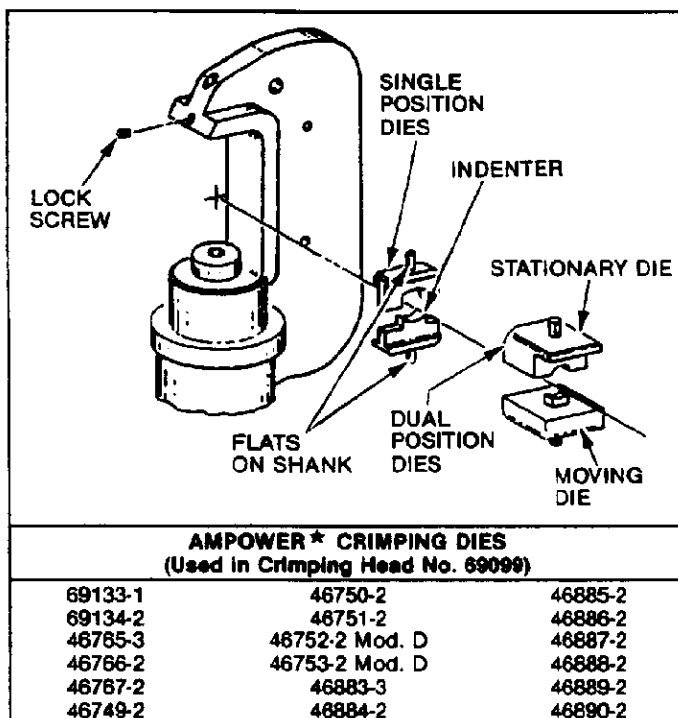
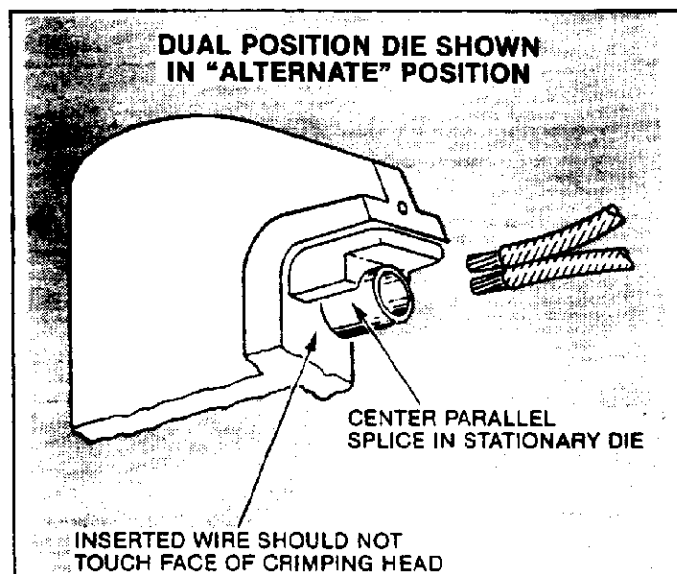

Fig. I-1
Fig. I-4
This instruction sheet (IS) covers application and maintenance procedures for the AMPPOWER crimping dies listed in Figure I-1.
The AMPPOWER die assemblies listed in Figure I-1 are used to crimp AMPPOWER terminals and splices of the wire sizes indicated in Figure I-2.
‡ NON-REVERSIBLE DIES. ALWAYS INSTALL INDENTER IN RAM. SEE FIGURE I-1.
2. Loosen lock screw in top of crimping head. See Figure I-1.
Ensure that dies are inserted FULLY and that flats on shanks are facing lock screws. See Figure I-1.
Typical single and dual position die sets are shown in normal crimping position in Figure I-1. The dual position dies are used in alternate position only for parallel splice applications as shown in Figure I-4.
When "alternate" position of dual position dies is being used to crimp parallel splices, ensure that the end of the inserted wire does not touch or bind against face of crimping head. See Figure I-4.